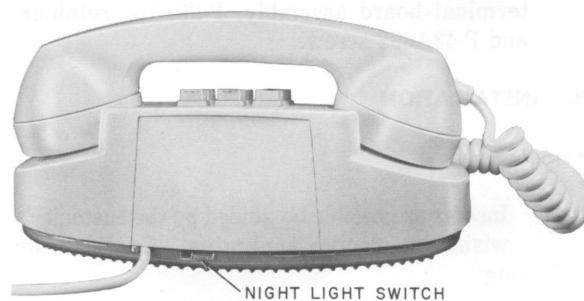

Fig. 2—2702B Telephone Set, Rear—Night Light Switch Location
2.05 The night light switch allows dial lamp to be operated at reduced intensity (dial lamp illuminates dial at full intensity with handset off-hook, Fig. 2).